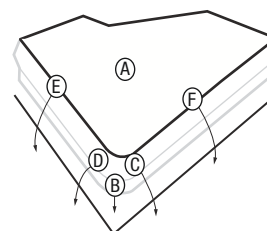

Figure 13. Apply the Product on the corner
3. Apply the Product to the flat surface before conforming the corners and then along the straight edges in this sequence: A, then B, C and D, then E and F, etc. See Figure 13.